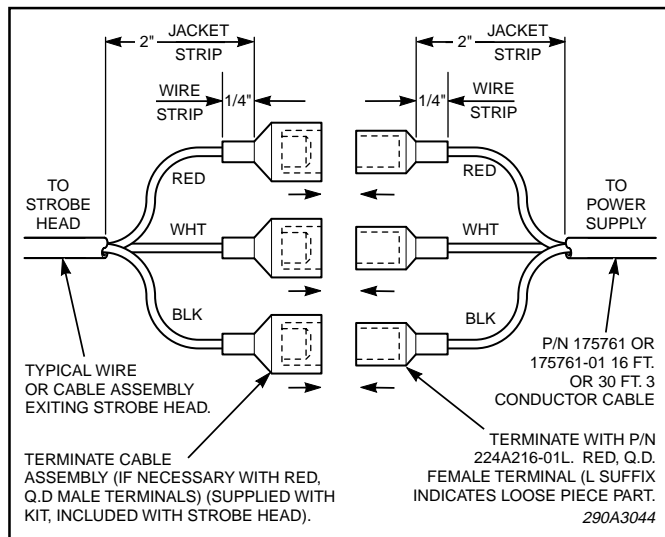

Figure 1.
Refer to figures 1 and 2 while completing the electrical connections.
6. When connecting to Models CS1, TMS1, DS1, 141SH, 131SH, and GS1, connect the cables' conductors to the strobe-head units' conductors by matching the wire colors as shown in figure 1.